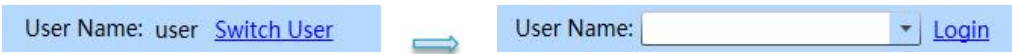

Figure D-2.1a Quick start bar - Login
- **Login:** users can click **< Switch User >** and enter the registered account name in the input box; or select a registered account name in the drop-down menu, and then click **< Login >** to log in as the current user account, as shown in figure D-2.1a.